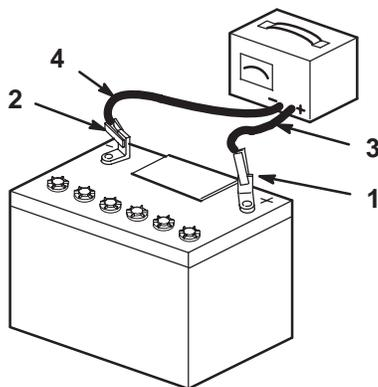

Figure 63
- When the battery is fully charged, unplug the charger from the electrical outlet, then disconnect the charger leads from the battery posts (Fig. 63).